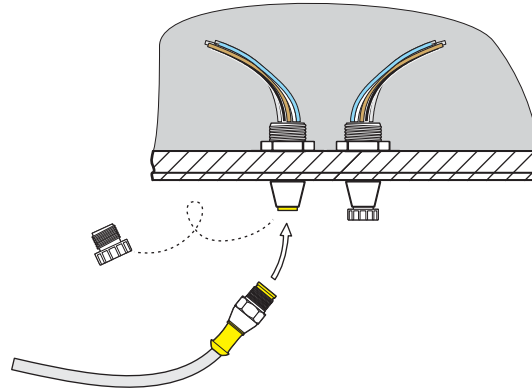

Figure 4 Connect the sensor to the controller
5. Connect the sensor to the controller using the keyed quick-connect fitting. Hand-tighten (refer to Figure 4).